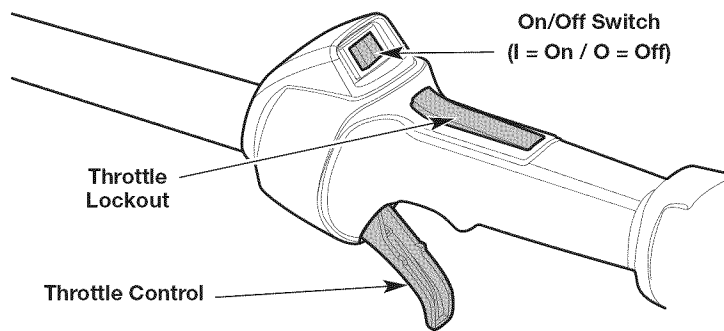
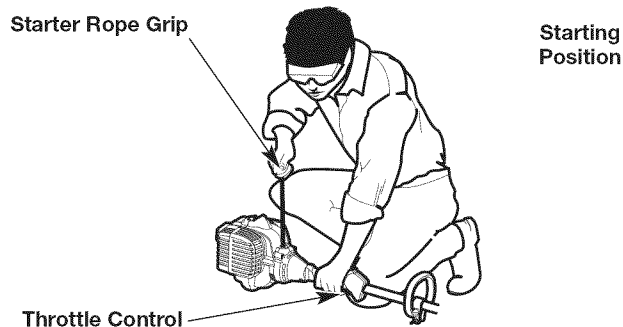

Fig. 7
Fig. 9
WARNING: Avoid accidentally starting the unit. To avoid serious injury, the operator and the unit must be in a stable position when pulling the starter rope (Fig. 9).
NOTE: There is no need to turn the unit on. The On/Off switch is in the **On (I)** position at all times (Fig. 7).
5. Crouch in the starting position (Fig. 9).
6. Press and hold the throttle lockout. Squeeze and hold the throttle control (Fig. 7). Pull the starter rope with a controlled and steady motion **5 times** (Fig. 9).
2. Press and hold the On/Off switch in the **Off (O)** position until the engine comes to a complete stop (Fig. 7).